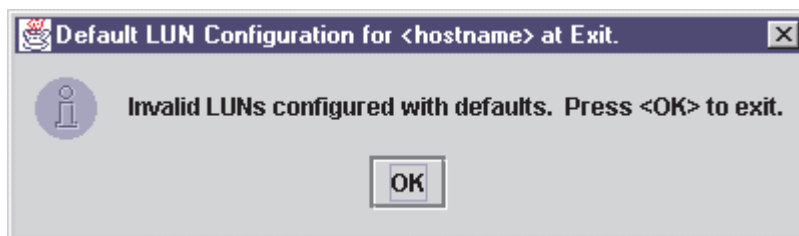

Figure 101. Invalid LUNs Configured with Defaults Error dialog window
- Click **Yes** if you want the software to configure the invalid LUNs with the default paths. The confirmation message shown in Figure 101 is displayed. Click **OK**.